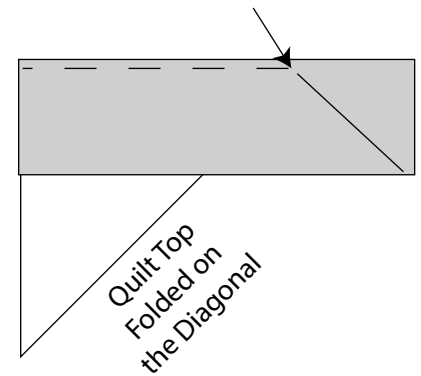

Fig. 13
12. Sew (1) 1 ½" x 54 ½" Fabric H strip to each side of the Center Block. Sew (1) 1 ½" x 50 ½" Fabric H strip to the top and to the bottom of the Center Block.
13. Center (1) 5 ½" x 70" Fabric I strip on (1) side of the Center Block and pin in place. Start sewing the strip a ¼" from the top edge of the block and stop a ¼" from the bottom edge. **DO NOT TRIM THE EXCESS.** Repeat with the opposite side.
14. Repeat Step 13 to sew (1) 5 ½" x 64" Fabric I strip to the top and to the bottom of the Center Block, making sure to stop and start ¼" away from each end of the block. To miter each corner, fold the Center Block on a diagonal, wrong side together. This should line up the strips from adjacent sides (Fig. 13).
15. Starting at the sewn seam (represented by the arrow in Figure 13), draw a 45-degree line to the edge of the fabric. Sew on the drawn line. Trim the excess fabric leaving a ¼" seam. Repeat this step with the remaining corners to make the quilt top.